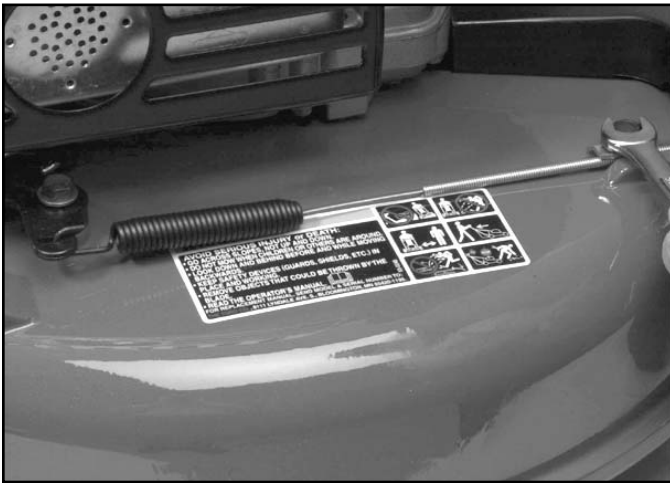

Fig 202
2. Unhook the spring and cable from the bellcrank (Fig. 202).